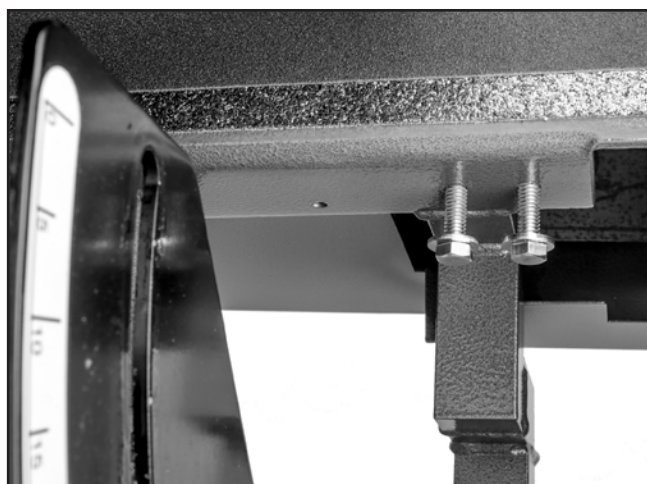

Figure 5. Back stop bolts.
1. Place a washer on each hex bolt and thread approximately one turn into holes in platen, as shown in **Figure 5**.